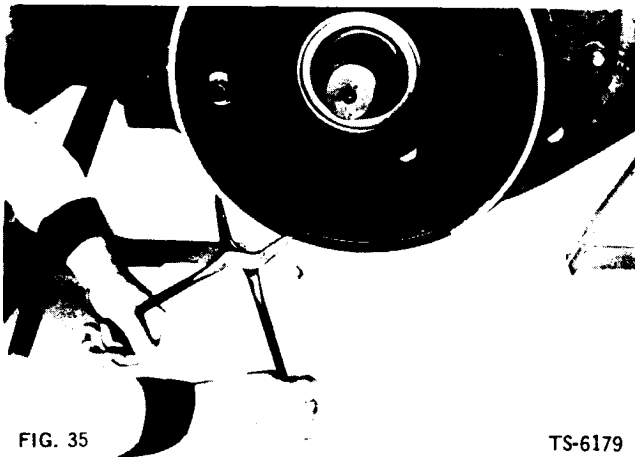

FIG. 35
34. Remove lower parking brake spring with brake spring pliers (Fig. 35).